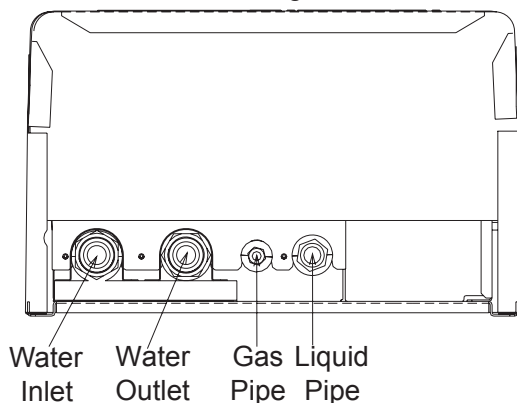

Fig.8.1 Location of Refrigerant and Water Pipeline
- (1) Confirm stop valve is closed. Gas and liquid pipe are located as shown in Fig.8.1:
- (1) The connecting location of water pipeline is seen in Fig.8.1.
- (2) Install ball valve